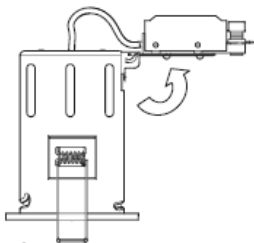

Fig. 2
- Fold out the terminal block bracket until it locks into position (see Fig. 2)